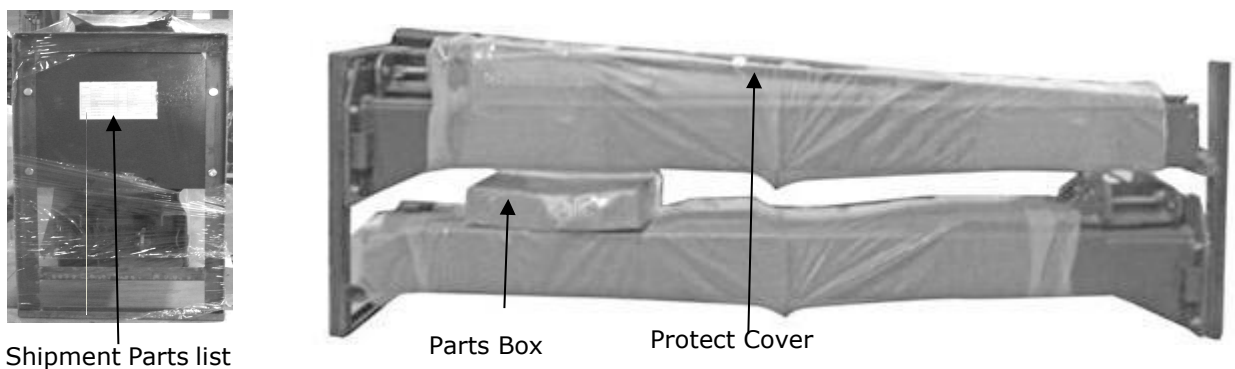

Fig. 8
2. Move the lift aside with a fork lift or hoist, and open the outer packing carefully, take off the parts from upper and inside the column, take out the parts box, check the parts according to the shipment parts list (**See Fig. 8**).